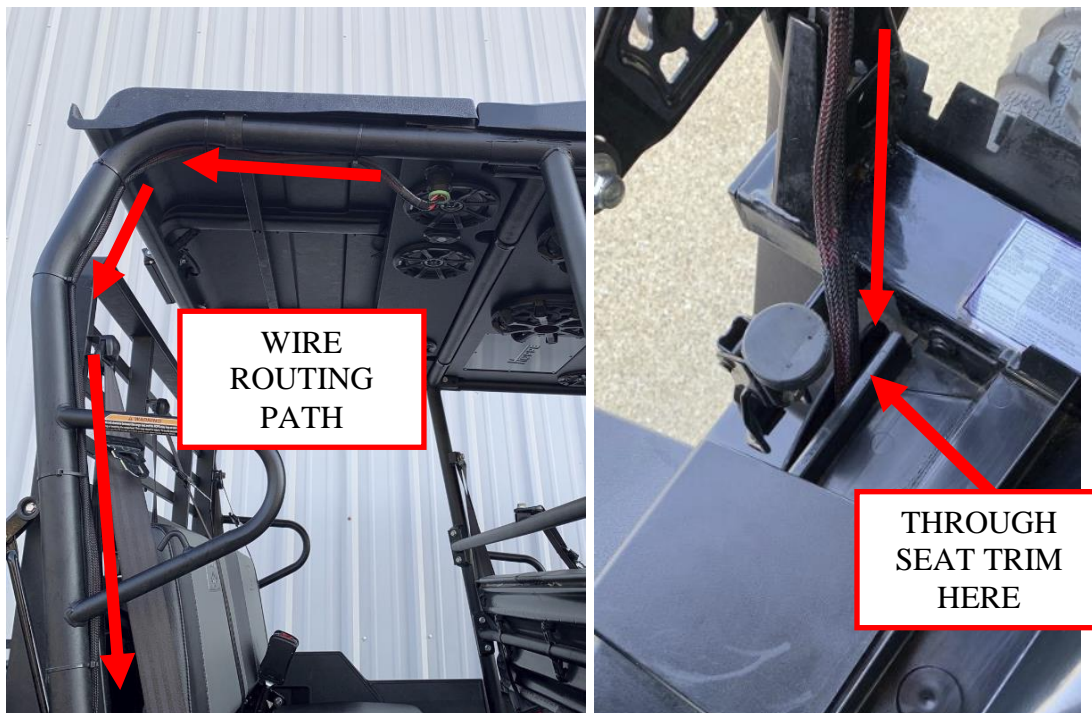

Figure 16: Route the battery cable wiring.
17. Route the chassis wiring harness along the down tube on the passenger's side rear corner of the cage. The ends with the battery terminals and relay block extend through the plastic seat trim, into the battery compartment under the rear seat. See Figure 16. FXT / DXT model shown. FX / DX model similar.